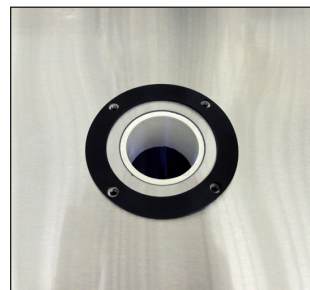

FIG. 1. Position the rubber gasket around the draft tower hole.
1. Position the rubber gasket over the mounting holes in the cabinet countertop. See fig. 1.